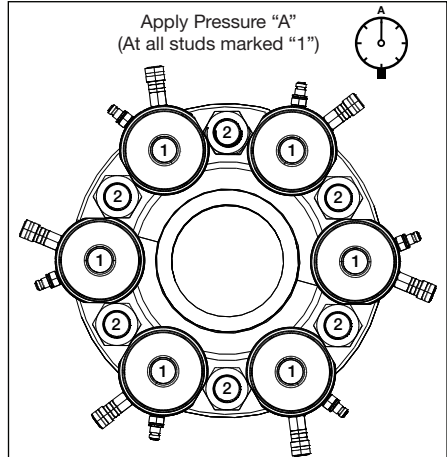

FIGURE 13, TENSIONER ARRANGEMENT, FIRST PASS - TYPICAL (50% TENSIONER COVERAGE)
3. Assemble the tensioner(s) to the studs marked "1" and connect the hydraulic hoses. See Figure 13 for typical tensioner arrangement. Also refer to sections 6.1 and 6.2 for additional tensioner installation and hook-up instructions.
- Check the piston stroke at each tensioner in the circuit. If necessary, turn down the threaded puller until the piston is fully retracted into the tensioner body. See Figure 13.